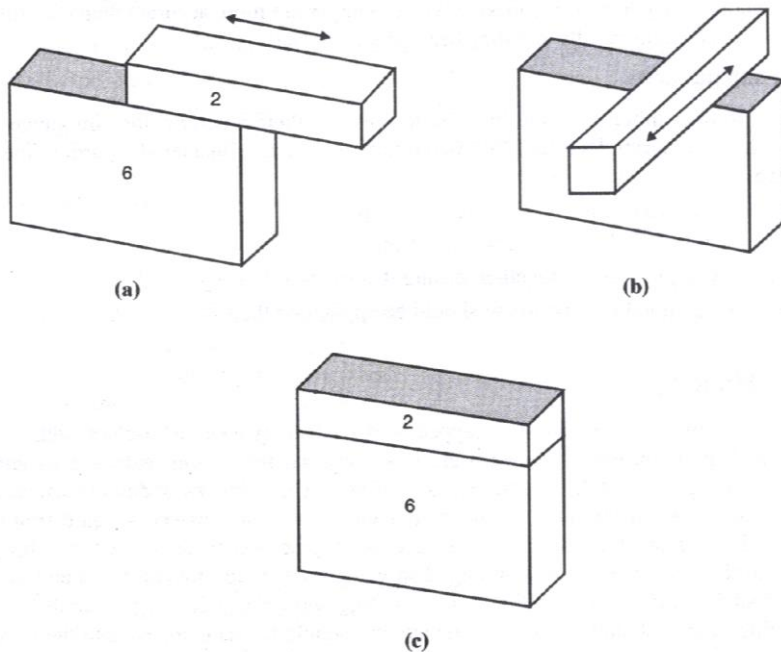

Fig. 11.2.19 : Wringing process of slip gauges
- First keep two slips on one another and slide them to know about any particles present on their surfaces (Fig. 11.2.19(a)).
- Press the faces into contact, perpendicular to each other and give a small twisting motion. (Fig. 11.2.19(b)).
- Fig. 11.2.19(c) shows the 'wring' slips, in which gap between two slips is very small in order of 0.00635 μm .